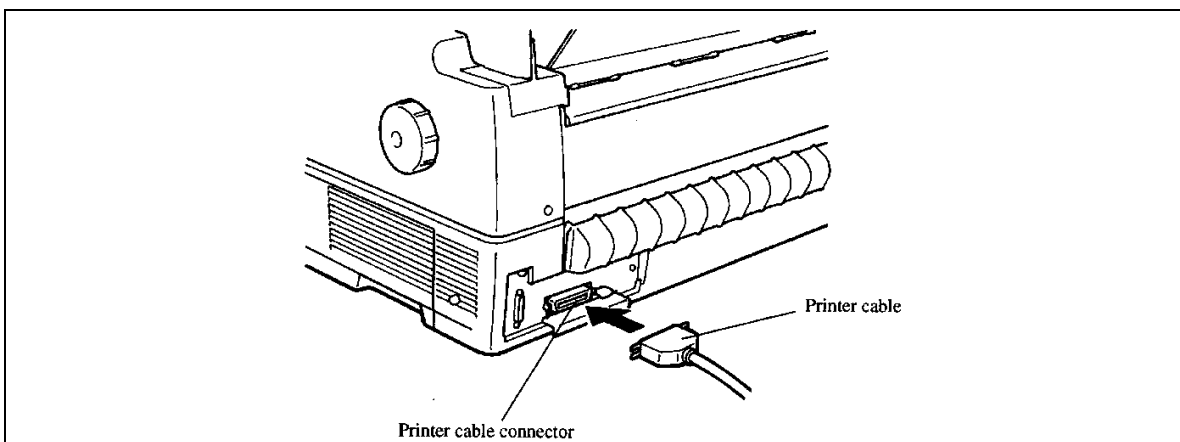

Figure 3-38. Connect the Printer Cable.
- (9) Connect the printer signal cable, as follows, refer to figure 3-38.